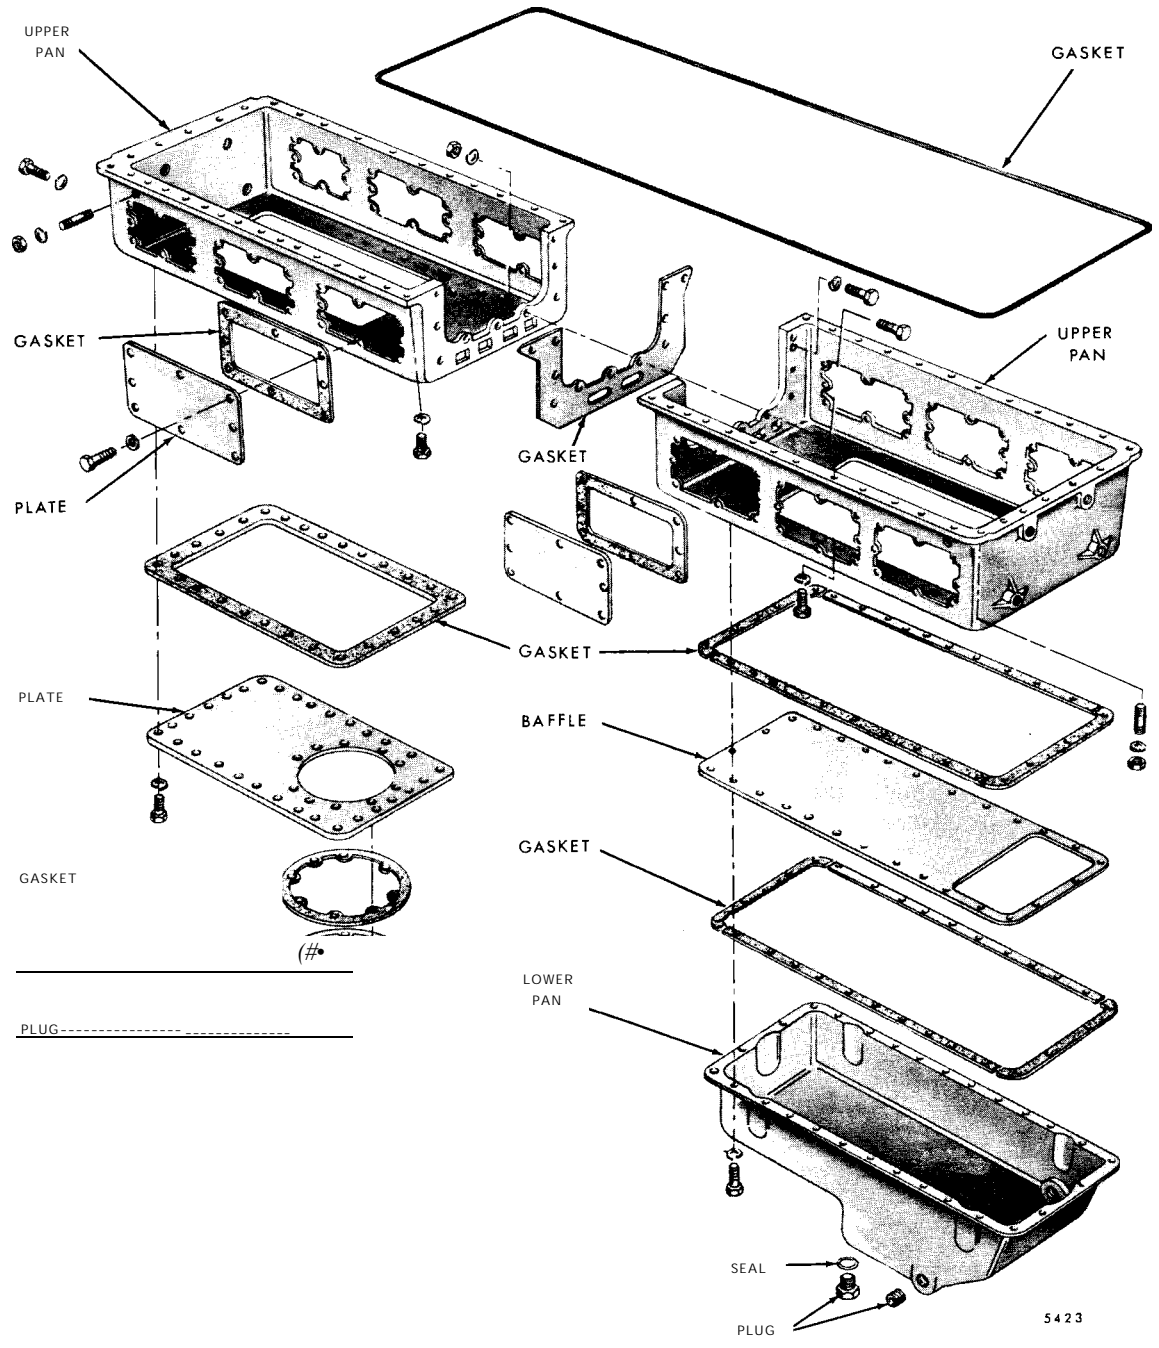

Fig. 2 - Typical Oil Pan and Relative Location of Parts
1. Refer to Fig. 2 and place a new gasket between the two oil pan halves. Install the seven 1/2"-20 bolts, nuts and lock washers and the two 1/2"—13 bolts and lock washers. Tighten the 1/2"-20 bolts to 83-93 lb—ft (113-126 N • m) torque and the 1/2" -13 bolts to 71-75 lb-ft (96-102 N-m) torque. *Trim the excess gasket material flush on the sides and bottom of the seal ring groove to allow installation of the seal ring.*